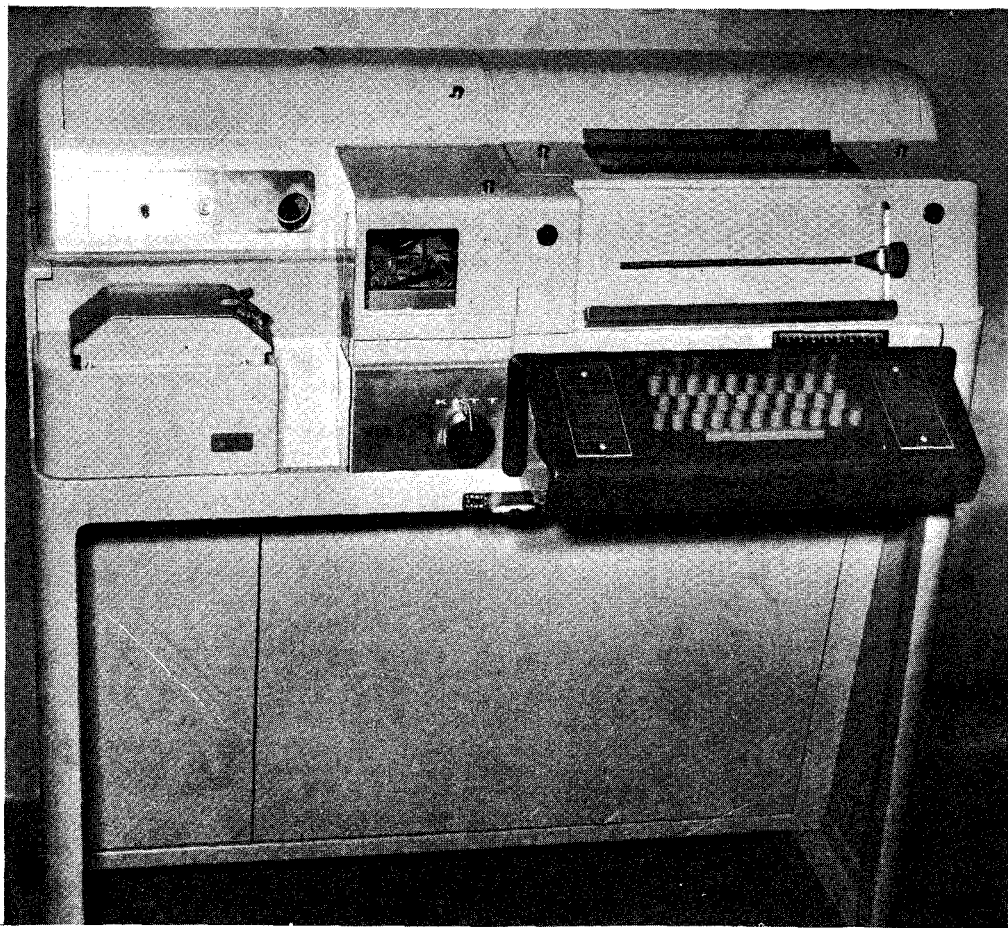

Figure 1.1 AN/UGC-6/16/UG Teletypewriter
2. It provides machine to machine interface between the AN/UGC-6/16 Teletypewriters and the associated cryptographic system. The AN/UGC-6/16 Teletypewriter is shown in Figure 1.1.